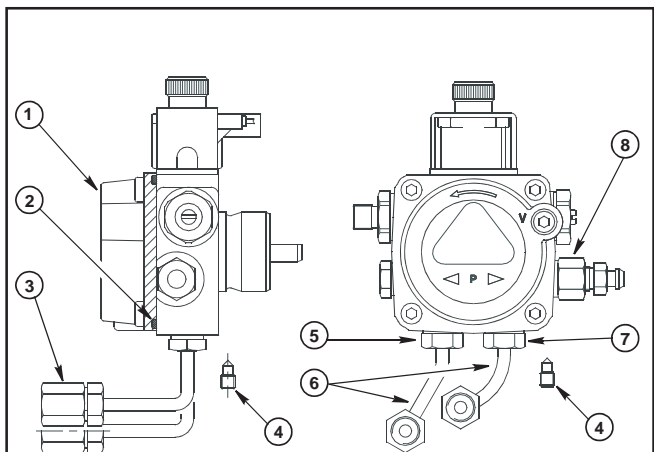

Figure 40
NOTE: If the **pump cover** (1) is removed for any reason, be sure the O-ring (2), is properly seated in the pump cover (1) before re-attaching the pump cover to the pump housing. See Figure 40.
B. Attach the two PIPE CONNECTORS (6) to the pump SUPPLY and pump RETURN PORTS (5 and 7). Attach the required piping to these two pipe connectors using the NPT/ METRIC ADAPTERS that are supplied with the burner.
C. Connect the pipe connector to the SUPPLY PORT (5) of the pump. Attach the NPT adapter to the pipe connector. Attach the required piping to this pipe adapter. Be sure that the plug in the RETURN PORT (7) is tightened securely. See Figure 40. Do not exceed the pipe lengths indicated in the table 12.
To install the by-pass plug: (Figure 40)